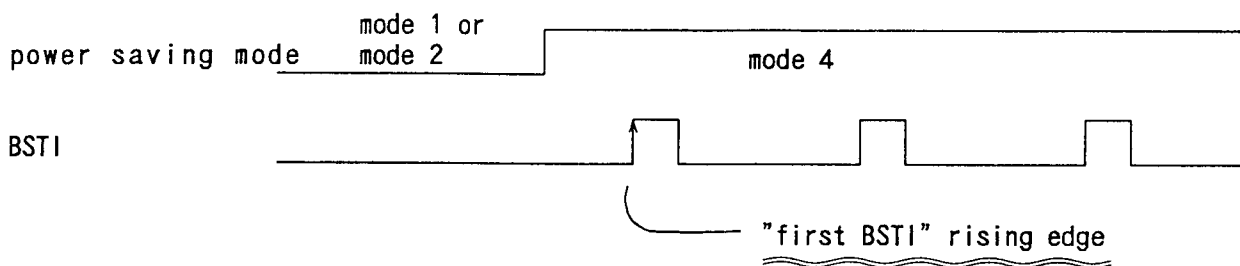

Fig. 3
- ① The "first BSTI " is defined as first burst signal input after recover of power down mode (full power down condition[mode 1] or partial energization condition [mode 2]). (Ref. Fig.3) All timing inside the AK2391 use the rising edge of "first BSTI" as the start point. So, 384kHz internal clock, output signal, and another timing are decided by this rising edge.